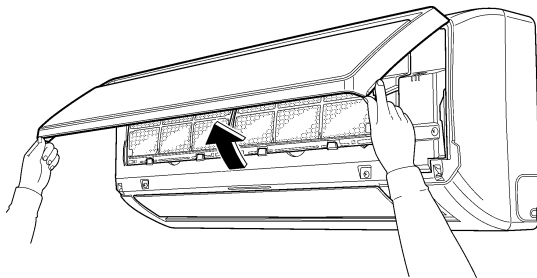

Fig. 1
- (1) Pull protrusions on left and right sides of panel with fingers and open front grille all the way. (Fig.1)